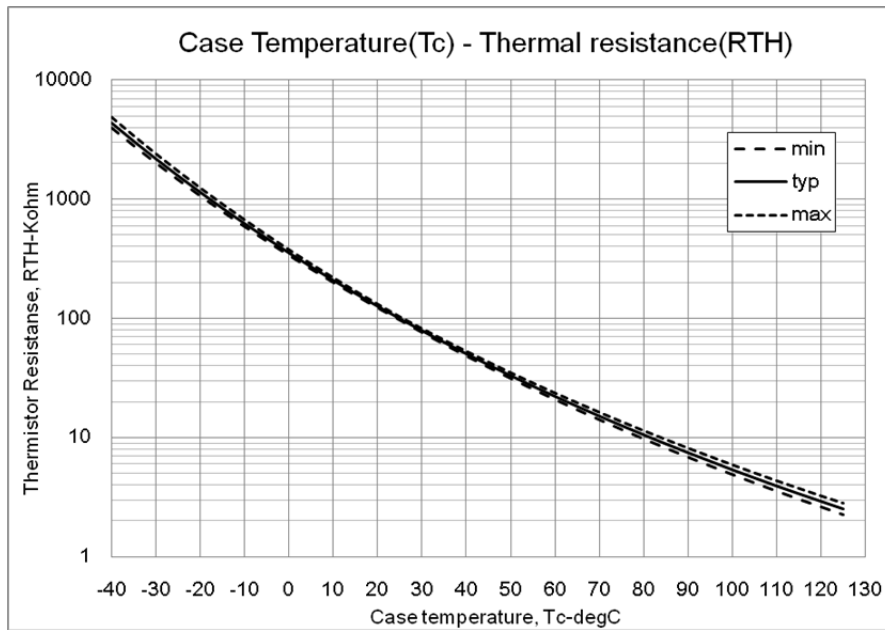
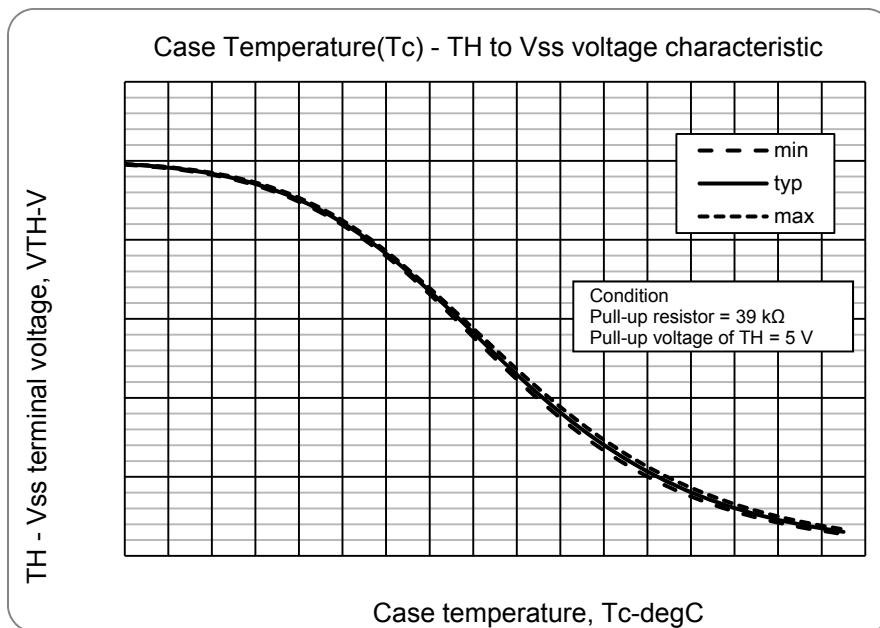

Fig. 10
Fig. 11
- Inside the IPM, a thermistor used as the temperature monitor for internal substrate is connected between V_{SS} terminal and TH terminal, therefore, an external pull up resistor connected between the TH terminal and an external power supply should be used. The temperature monitor example application is as follows, please refer the Fig.10, and Fig.11 below.